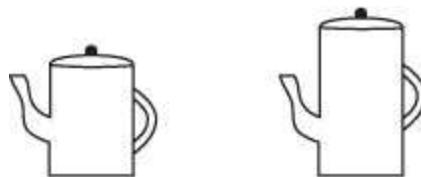

Figure SAT2.11Q1
1. Figure SAT2.11Q1 shows two coffeepots sitting on a level table. Both are cylindrical and have the same cross-sectional area. Which coffeepot will hold more coffee?